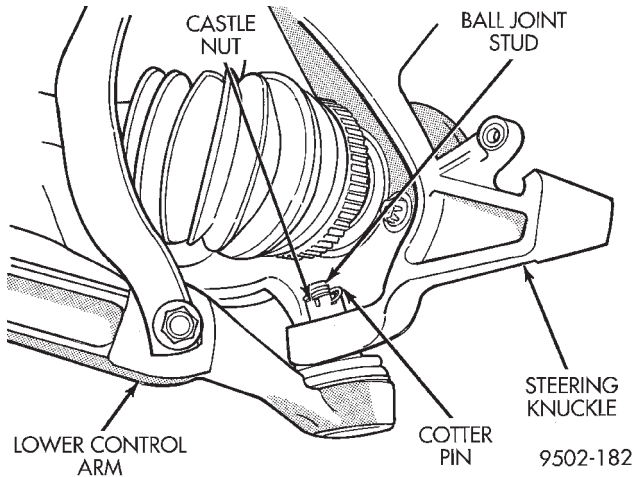

Fig. 9 Lower Ball Joint to Steering Knuckle Attachment
(12) Remove cotter pin and castle nut (Fig. 9) from stud of lower ball joint at the steering knuckle.